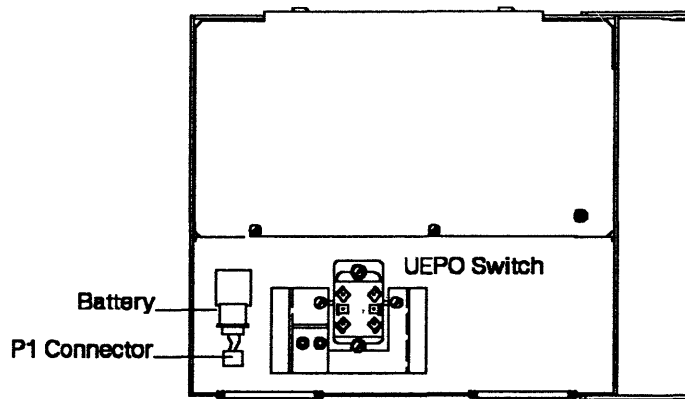

Figure 1-5. Control Panel (Rear)
- Step 7. ____ Open the control panel (one screw). Locate the unit emergency power OFF (UEPO) switch at the rear of the control panel (see Figure 1-5).
- Step 9. ____ At the rear of the control panel, plug the battery connector P1 to connector J1 (see Figure 1-5 on page 1-7 for location). Close and secure the control panel with the screw previously removed.